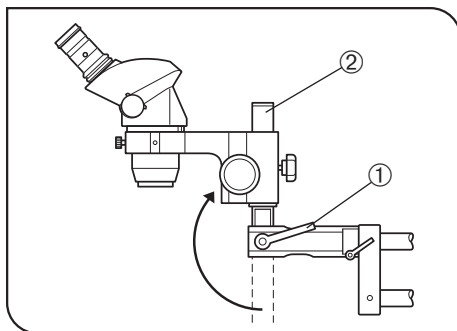

Fig. 20
5. When observing a tall specimen or using an auxiliary objective with long working distance, loosen the tilting clamping lever ①, revolve the mount shaft ② by 180° so that it points upward, and mount the microscope body above the horizontal arm. (Fig. 20)